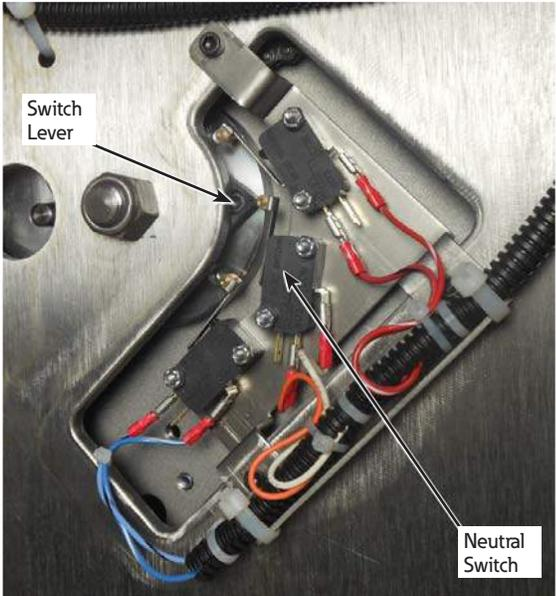

Figure 138. Neutral switch is depressed
D. The neutral switch will be depressed with the switch lever. See Figure 138.